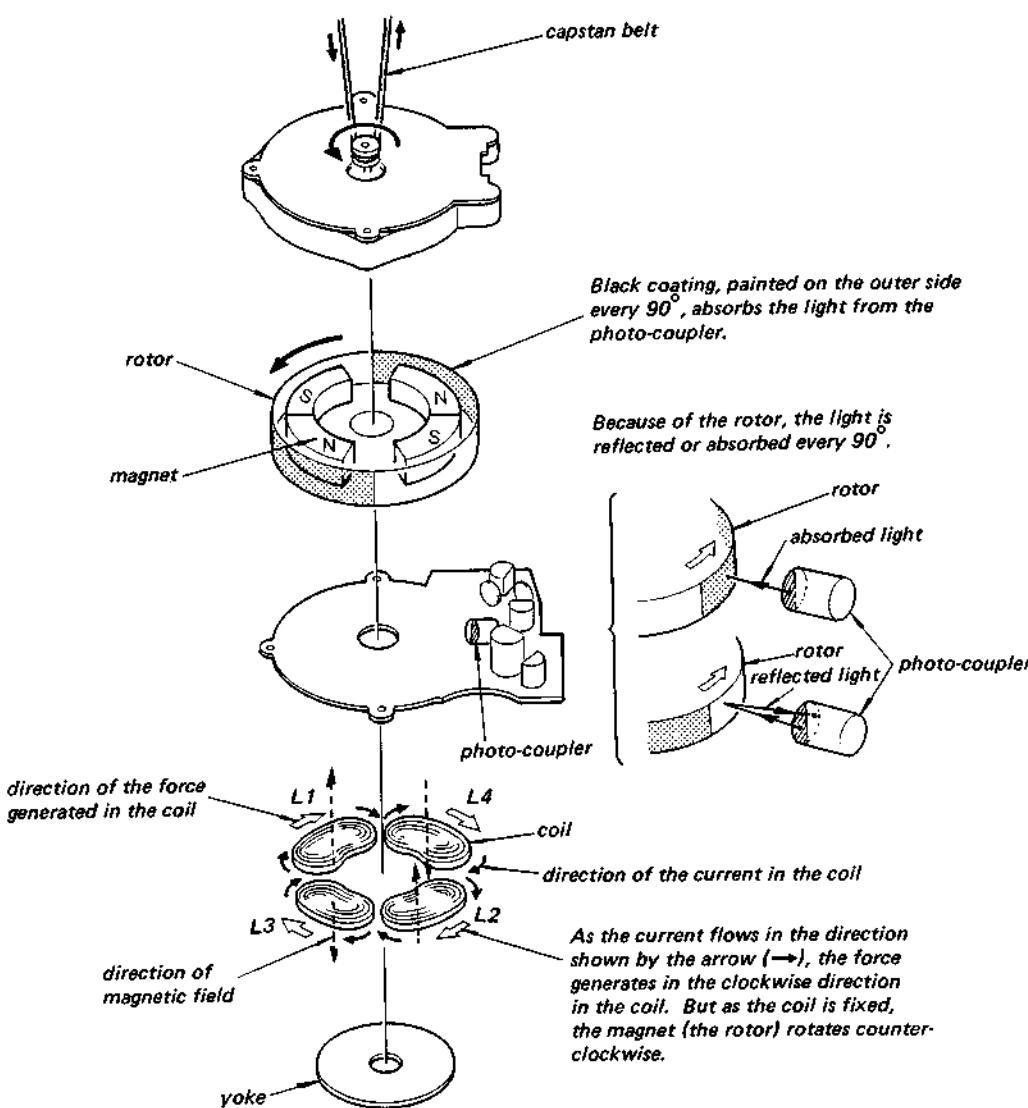

Fig. 3 Mechanism of the Motor
According to the Fleming's left-hand rule, the force generated in the motor coil is in the clockwise direction (See Fig. 3), but since the coils are fixed so that the magnet (rotor) rotates counterclockwise (See Fig. 3).
- The rotor rotates in the direction shown by the arrow (See Fig. 3).
— The rotor rotates in the direction shown by the arrow (See Fig. 3).